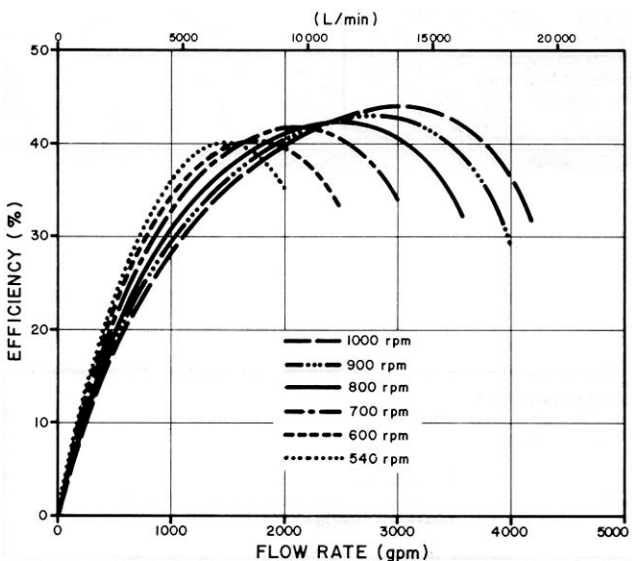

FIGURE 4. Pump Efficiency of the Lloyd's Model RE-100 at Various Flow Rates and Power Take-off Speeds.
**Pump Efficiency:** FIGURE 4 shows pump efficiency of the model RE-100 at various flow rates and power take-off speeds. A peak efficiency of 44% occurred at a 1000 rpm power take-off speed and 3000 gal/min (13,650 L/min) flow. Peak efficiencies at other power take-off speeds were less.